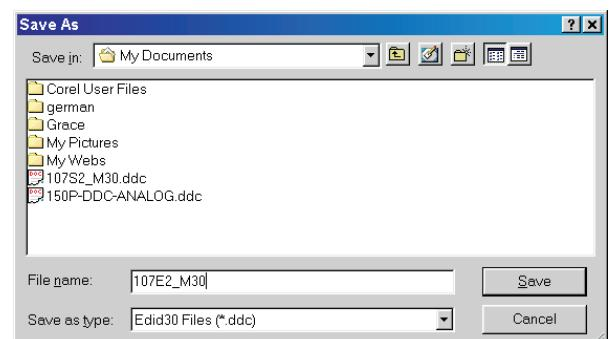

Fig. 19
1. Click (Save) icon (or click "file"->"save as") from the tool bar and give a file name as shown in Fig. 19. The file type is EDID301 file (*.ddc) which can be open in WordPad. By using WordPad, the texts of DDC data & table (128 bytes, hex code) can be modified. If DDC TEXTS & HEX Table are completely correct, it can be saved as .ddc file to re-load it into EEPROM for DDC Data application.